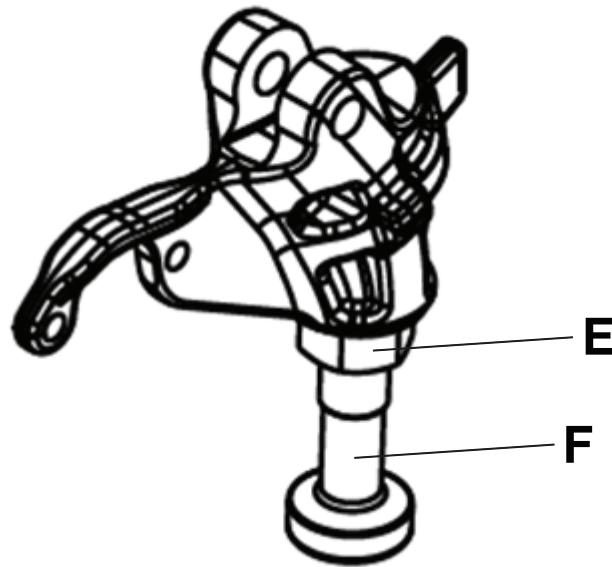

Figure 10 – Head end forging assembly
- Using a 15/16" hex wrench, loosen the locknut (E) that secures the pin (F) to the head end forging assembly (Figure 10).